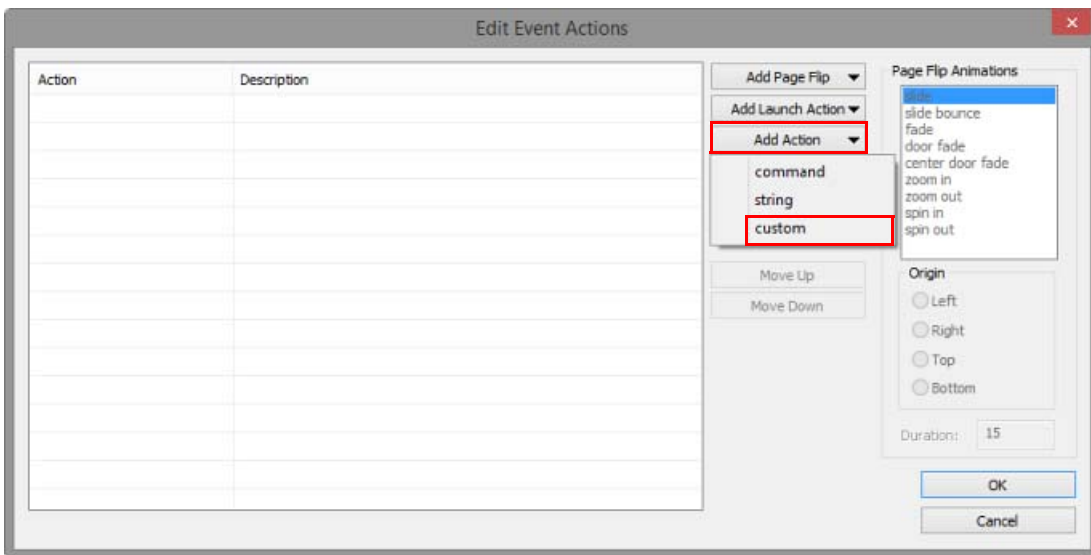

FIG. 277 Edit Event Actions dialog - Add Action drop-down list
3. Click **Add Action**, and select "custom" from the drop-down list (FIG. 277):
3. Click **Add Action**, and select "custom" from the drop-down list (see FIG. 277 on page 204):